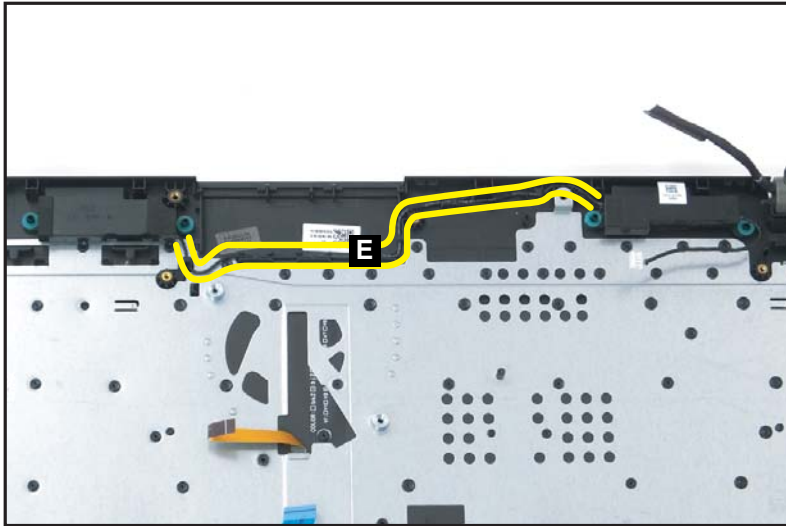

Figure 1-44. Speaker Module Removal
3. Remove the speaker cable (E) from the cable guides (Figure 1-44).